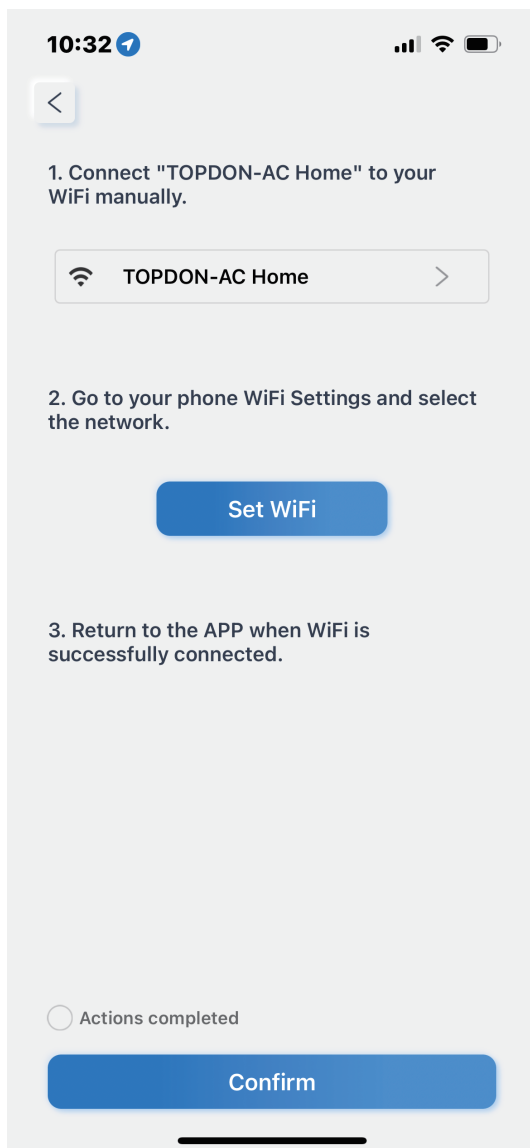

Fig.6.1.6
6. Tap the TOPDON- AC Home to connect the hotspot. (See Figure 6.1.6)